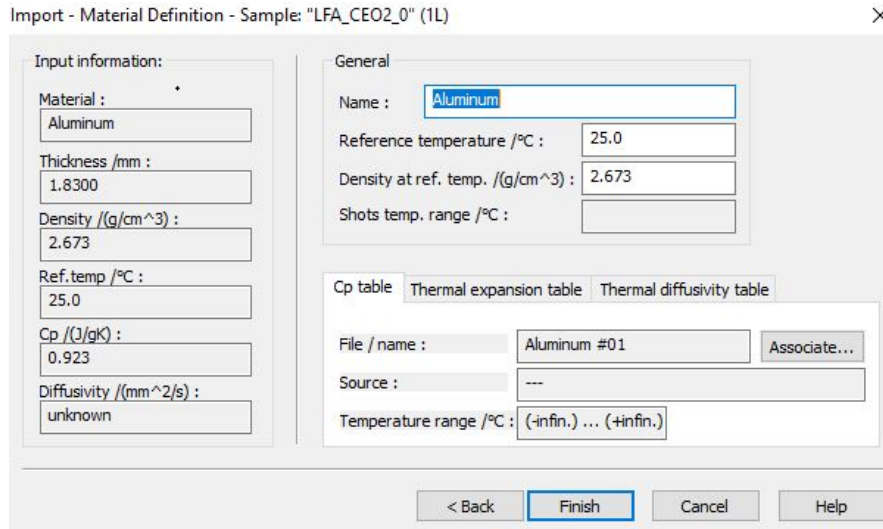

Figure 35. Complete the material definition information.
- Complete the material definition information as needed (as shown in Figure 35).